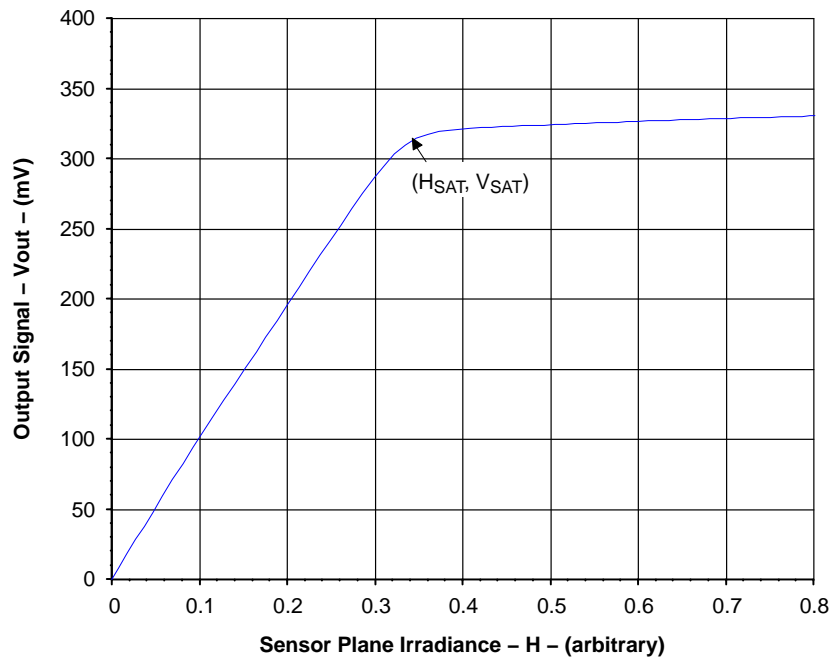

Figure 8. Typical KAI-0330 Photoresponse
6. X_{AB} represents the increase above the saturation-irradiance level (H_{SAT}) that the device can be exposed to before blooming of the vertical shift register will occur. It should also be noted that V_{OUT} rises above V_{SAT} for irradiance levels above H_{SAT} , as shown in Figure 8.